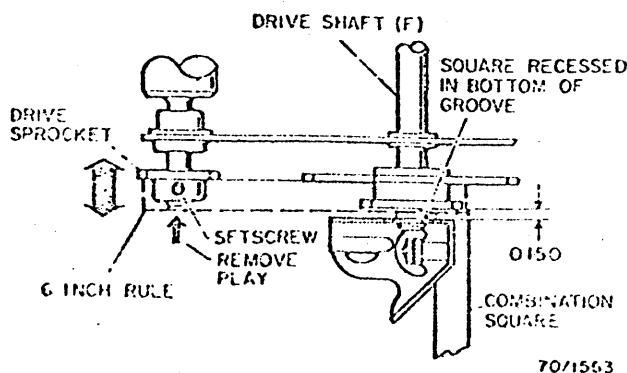

Fig. 3-209. Driven Sprocket Adjustment
1. Loosen setscrews on both sprockets and locate combination square as shown; tighten setscrews on large sprocket (Fig. 3-209).